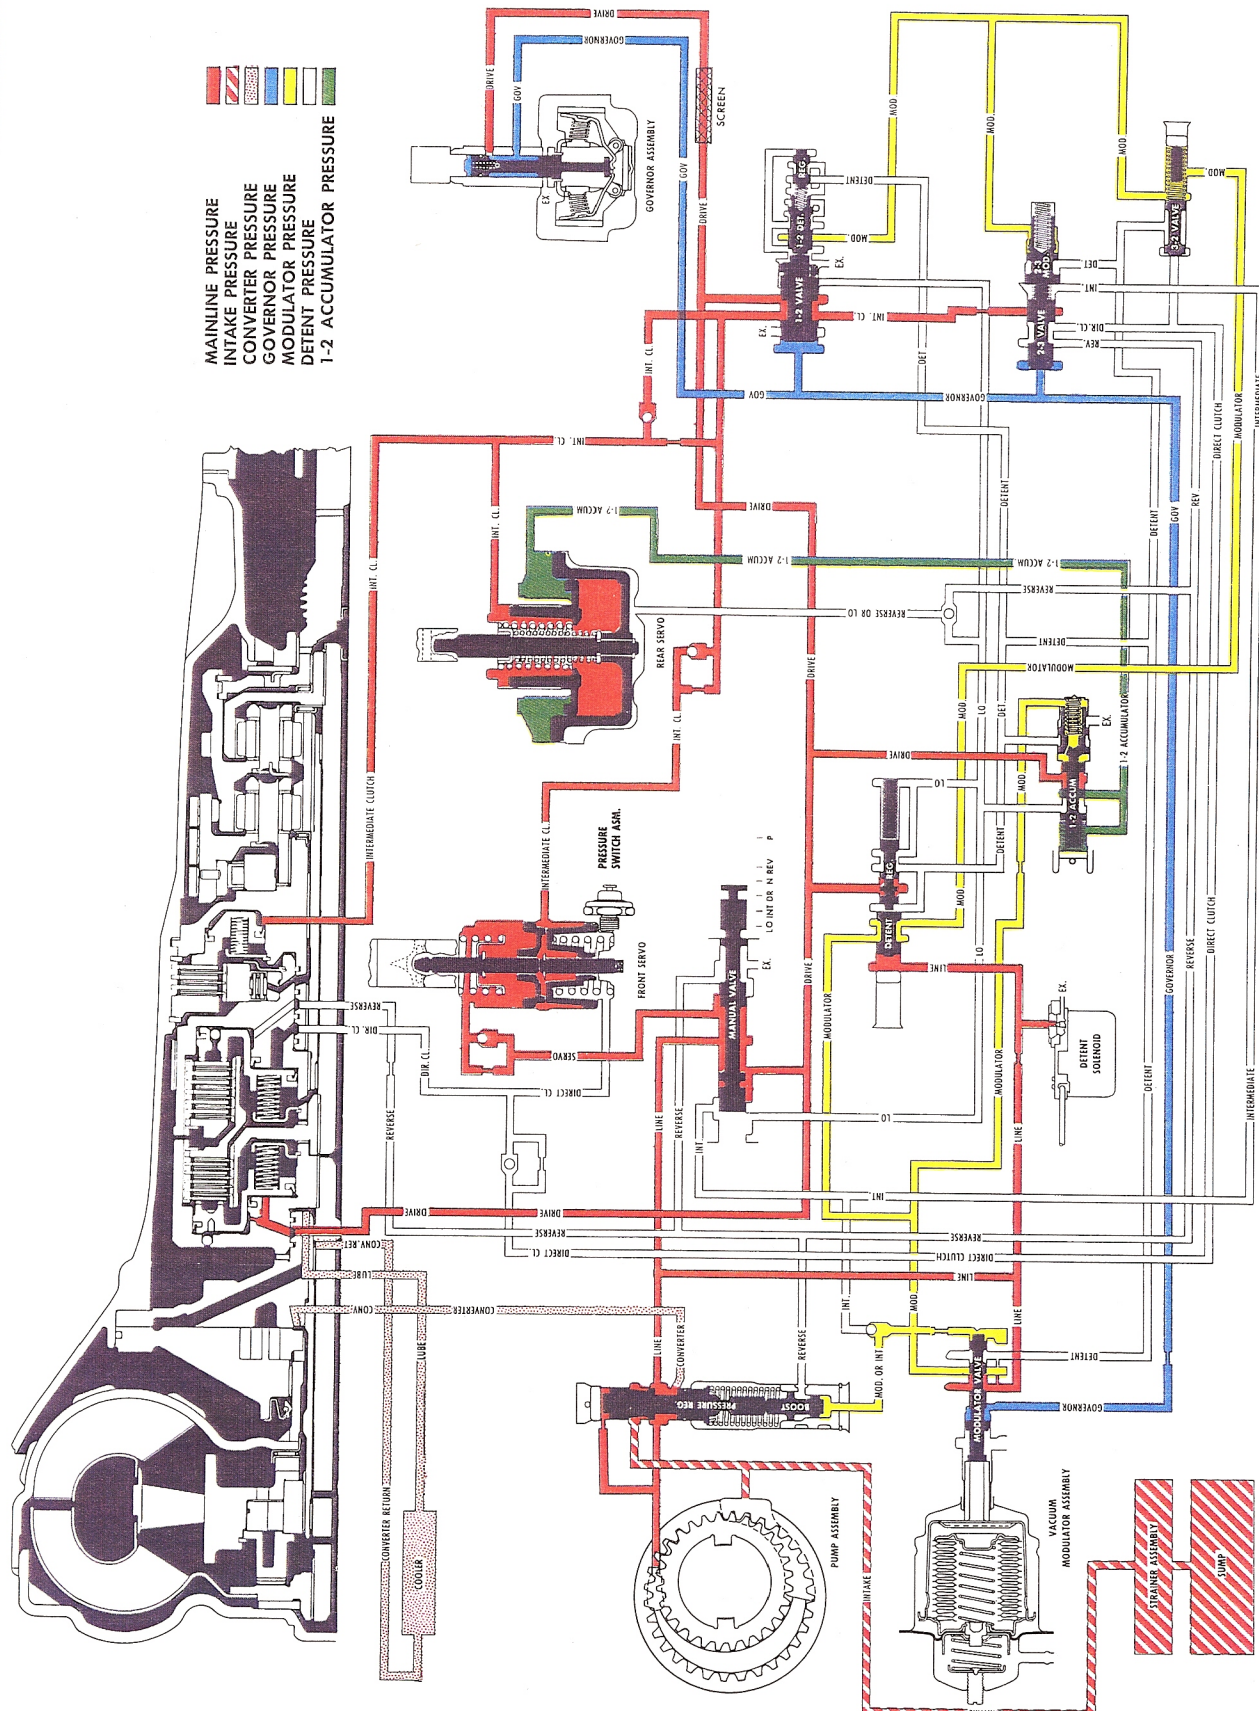

Fig. 61 Drive Range - Second Gear
- FIG. 61 DRIVE RANGE—SECOND GEAR
Intermediate clutch oil from the 1-2 shift valve is directed as shown in Fig. 61